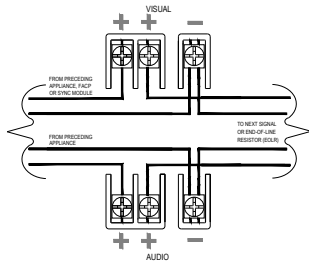
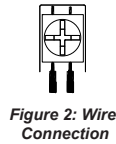

Figure 1: Speaker Strobe Wiring
Figure 2: Wire Connection
- Break all in-out wire runs on supervised circuits to assure integrity of circuit supervision as shown in Figure 2. The polarity shown in Figure 1 the wiring diagram is for operation of the appliances.
- Pre-Wire:** Connect field wires to terminals on mounting plate (reference Figure 1 and 2). Ensure the speaker wiring is connected to speaker terminals only, and strobe wiring is connected to strobe terminals only. Use care and proper techniques to position the field wires in the backbox so that they use minimum space and produce minimum stress on the product. This is especially important for stiff, heavy gauge wires and wires with thick insulation or sheathing. When terminating field wires, do not use more lead length than required. Excess lead length could result in insufficient wiring space for the signaling appliance.